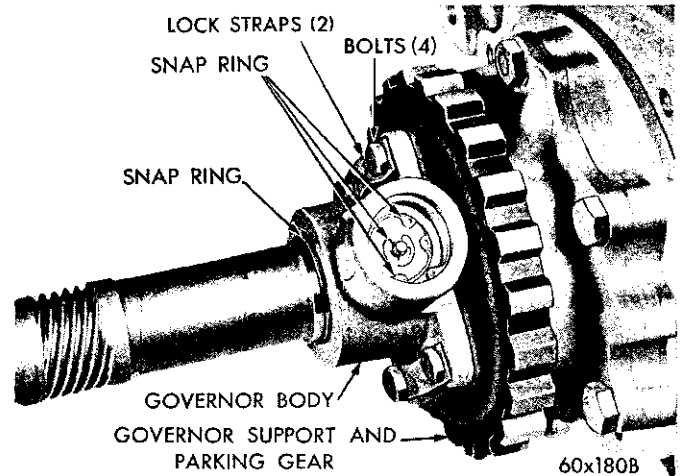
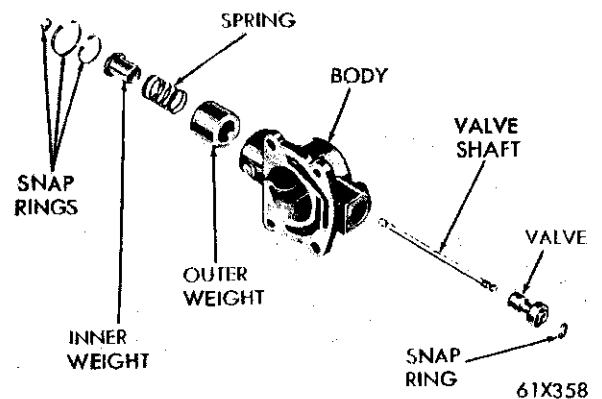

Fig. 39—Governor Shaft and Weight Snap Rings
Fig. 40—Governor Assembly (Disassembled)
(1) Remove the extension housing. See Paragraph 19.
(2) Using a screw driver, carefully pry the snap ring from the weight end of governor valve shaft (Fig. 39). Slide the valve and shaft assembly out of the governor body.
(3) Remove the large snap ring from the weight end of the governor body, lift out the governor weight assembly.
(4) Remove the snap ring from inside the governor weight, remove the inner weight and spring from the outer weight. Figure 40 shows a disassembled view of the governor assembly.
(1) Assemble the governor body to the support (if disassembled) and tighten the bolts finger tight. Make sure oil passage of governor body aligns with passage in the support.
(2) Position the support and governor assembly on output shaft. Align the assembly so the governor valve shaft hole in the governor body aligns with the hole in the output shaft, then slide the assembly into place. Install snap ring behind the governor body (Fig. 39). Tighten body to support bolts to 100 inch-pounds torque. Bend ends of lock straps over the bolt heads.
(3) Assemble the governor weights and spring, and secure with snap ring inside of the large governor weight. Place the weight assembly in the governor body and install the snap ring.
(4) Place the governor valve on the valve shaft, insert the assembly into the body and through the governor weights. Install the valve shaft retaining snap ring. Inspect the valve and weight assembly for free movement after installation.
(5) Install the extension housing, transmission flange and connect the propeller shaft.
(6) Connect and adjust the parking lock cable. Refer to Paragraph 10.